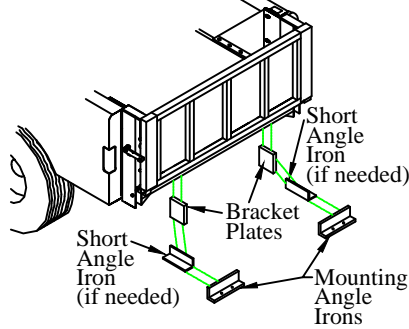

Figure 16: Lower bracket support.
- 2. Bolt** the bracket plates to the truck frame (Figure 16). If possible, these may extend out to the mounting angle irons on the liftgate. Modification to the bracket plates may be required.